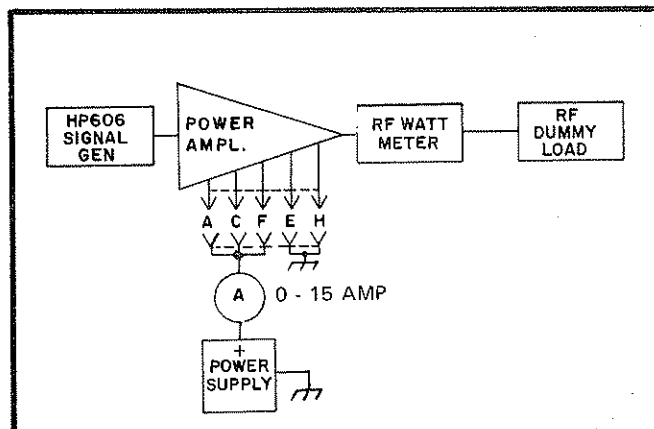

Figure 5.4 Power Amplifier Test Setup
5.8.4.2 For servicing the power amplifier, it is desirable to use an external power source capable of 28VDC at 12 amperes, continuously variable from 0 to 28 VDC. If such a power source is not available, the transceiver power supply can be used. A typical test set up is shown in Figure 5.4.
- 5.8.4.7 When transistor replacement is complete, test the power amplifier per test setup shown in figure 5.4. Apply D.C. power and slowly increase signal generator drive until 100 watts is shown on the wattmeter. The ammeter should indicate approximately 8.5 amperes. Allow the amplifier output to remain at 100 watts for one or two minutes. Remove the signal drive. The ammeter should drop to 1 ampere or slightly greater. If the current drops to 2 amperes or higher and slowly decays toward the 1 ampere level, this means that one or both output transistors has not been properly seated to